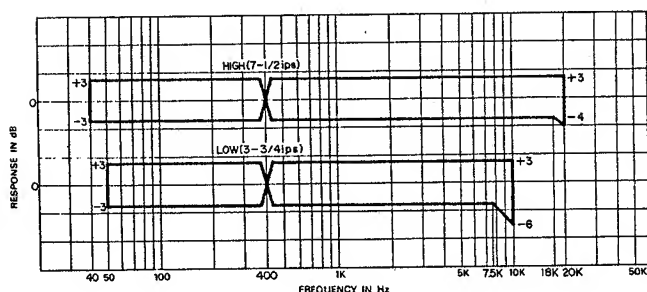

Fig. 8-10 Frequency Response — OVERALL — 1
20. During recording, monitor the Tape signal and adjust equalization L-301/L-303 for readings within the Response Limits charts. See Fig. 8-10 below.
22. Apply signal swept from 40 Hz to 20 kHz, -28 dB (30.8 mV) and while monitoring the off-the-Tape signal check for readings within the Response Limits charts. See Fig. 8-10 below.